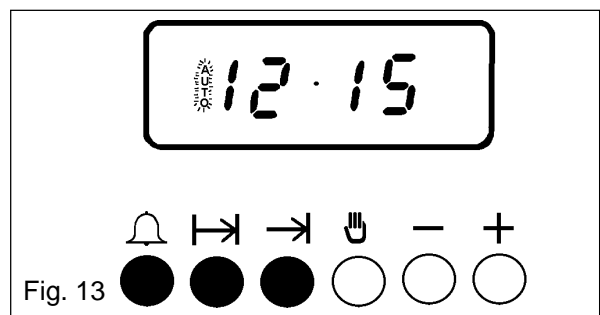

Fig. 13
- i) To stop the sound press any of the first three buttons, as Fig. 13.